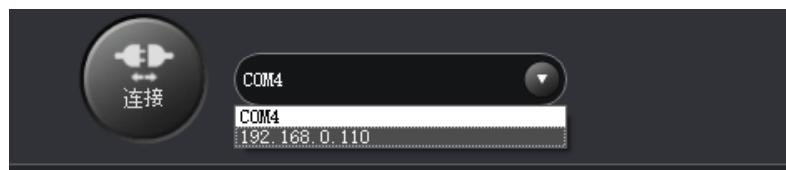

Figure 5.180 IP address of Dobot Magician
**Step 8** After 2 seconds later, select the IP address from the drop-down list on the upper left pane of the DobotStudio page and click **Connect**, as shown in Figure 5.180.